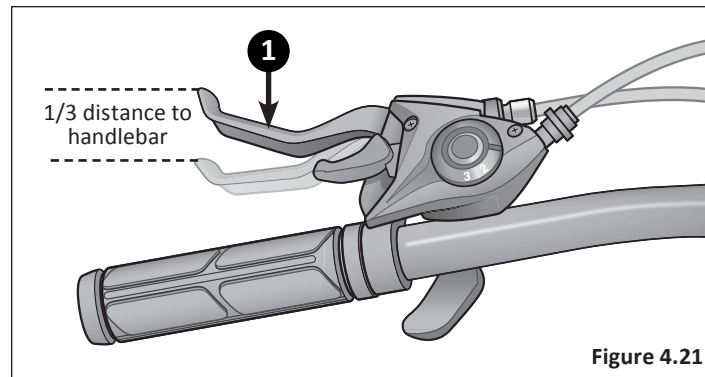

Figure 4.21
- ❶ Check that the brake cable tension allows the brake lever about 1/3 of the travel before the brake pads contact the disc rotor. If the cable has stretched or slipped, re-adjust the brake cable tension. **Figure 4.21**